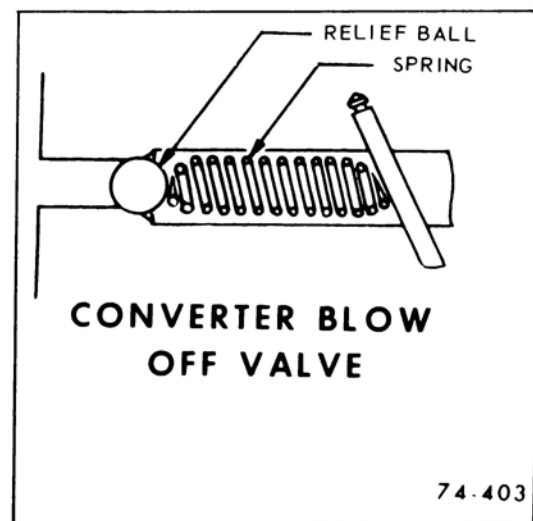

Figure 74-24—Converter Blow-Off Valve
m. Converter Blow Off Valve (See Figure 74-24)